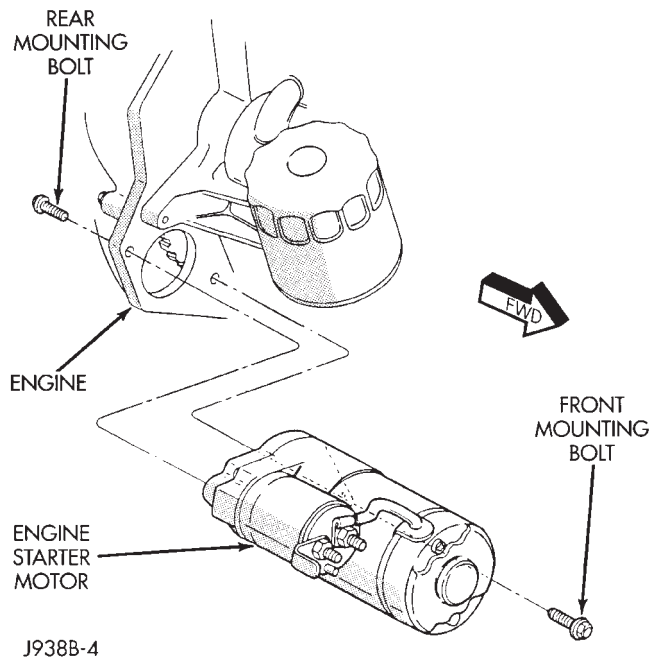

Fig. 3 Starter Motor Removal/Installation—Typical
- (4) Remove starter front mounting bolt (Fig. 3).
- (5) Remove starter rear mounting bolt and remove starter.
(6) To install the starter motor, reverse the removal procedures and torque the mounting hardware as follows: